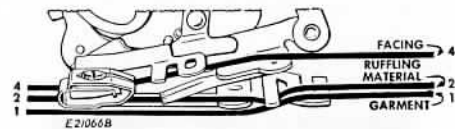

Fig. 68. Correct Positions for Materials
1. Insert material to be ruffled between two blue blades **Line 2**, Fig. 68.
- Place material to which ruffle is to be attached under separator blade **Line 1, Fig. 68.**
- Place facing material over upper blue blade **Line 4, Fig. 68.**